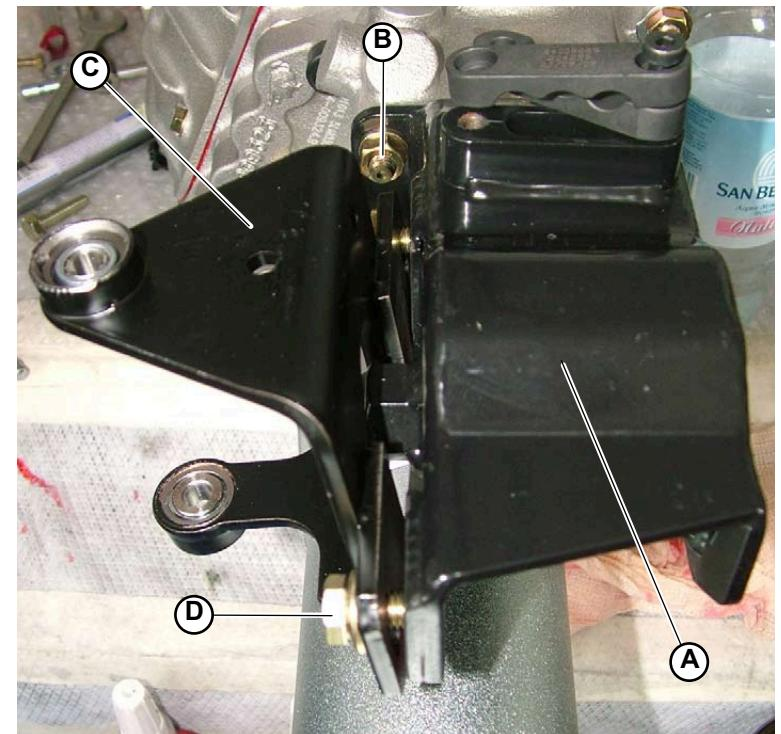

Fig.1
1. Assemble the bracket (A-Fig.1) on the gearbox, tightening the 4 screws (B-Fig.1).
2. Anchor the bracket (A-Fig.1) to the bracket (C-Fig.1) using the 2 screws (D-Fig.1).
Do not tighten the screws (D-Fig.1). Leave them loose.
- Following correct alignment, tighten the 2 screws (D-Fig.1) that secure the bracket (C-Fig.1) and tighten the screw (H-Fig.3) that secures the coupling (G-Fig.2).